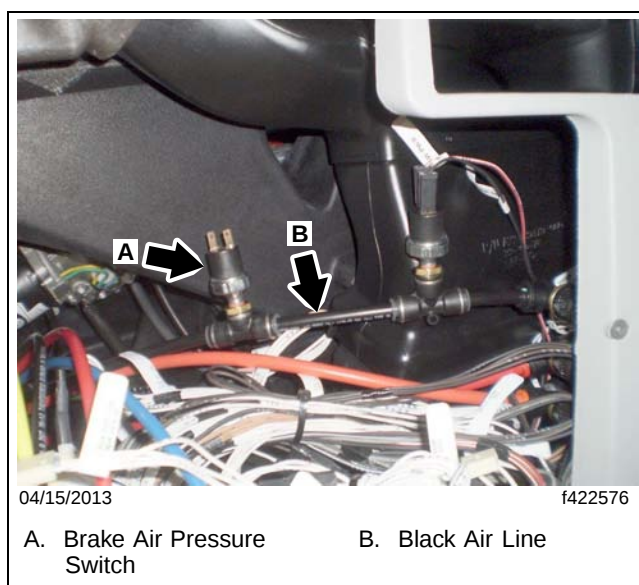

Fig. 1, Brake Supply Air Line and Brake Air Pressure Switch
5. Locate the black park brake supply air line as shown in **Fig. 1**.
6. Inspect the installation to determine if an additional air pressure switch has been installed in the park brake supply line as shown in **Fig. 1**, and that wires 440X and 440G have been relocated from the electronic control center (ECC) to the switch.
7. Install the tee and air pressure switch (from the kit) into the park brake supply air line. See **Fig. 1**